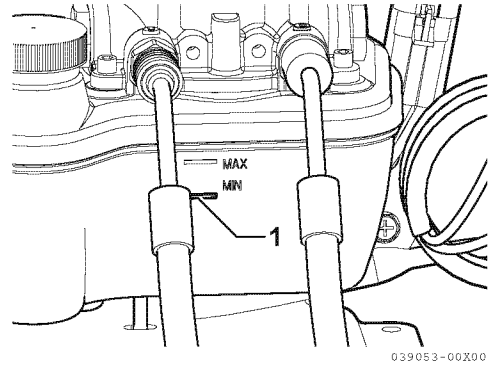

Figure 5
3. The oil level is low if it is below the MIN line (1, **Figure 5**) on the reservoir. Fill as necessary with the specified fluid. See *Fill the Power Trim Pump Fluid* on page 29.